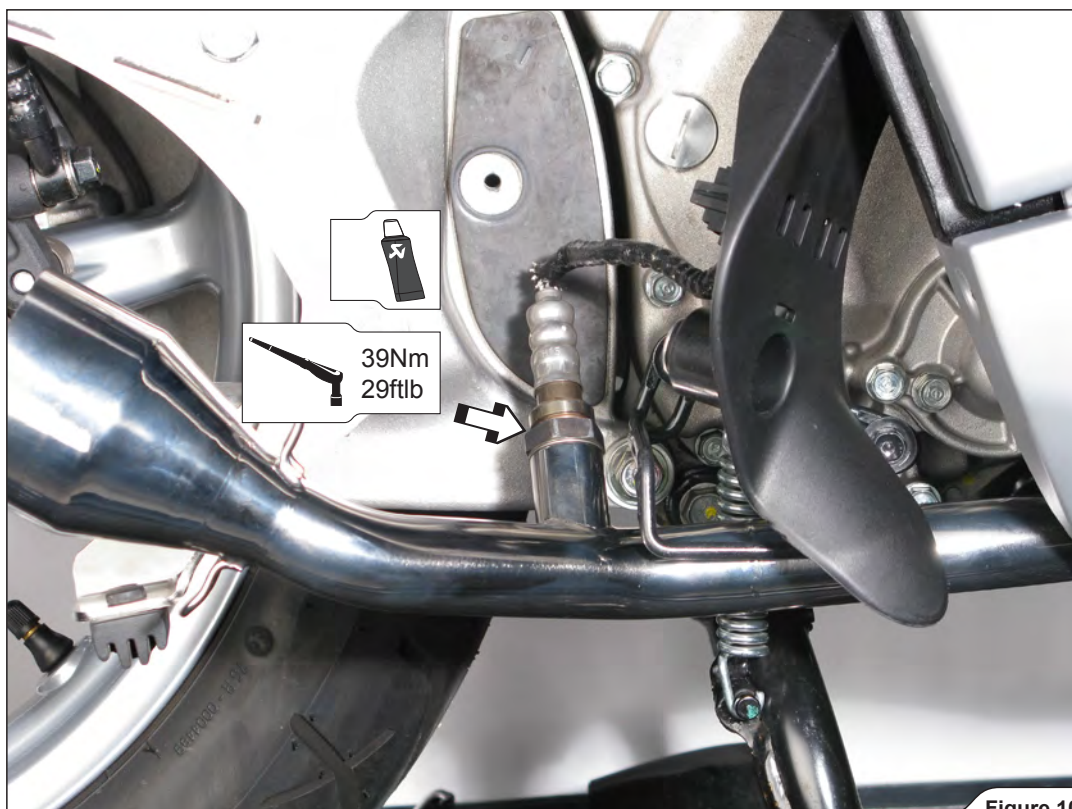

Figure 10
4. Tighten the lambda sensor into the Akrapovič header (Figure 10).